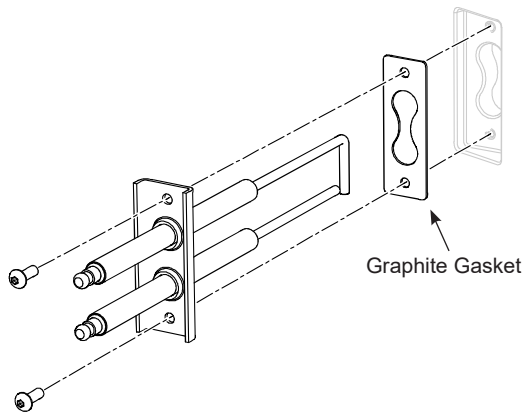

Figure 27: Igniter Electrode Assembly
- e. Install igniter electrode in the orientation shown in Figure 27; otherwise, the unit will not light.